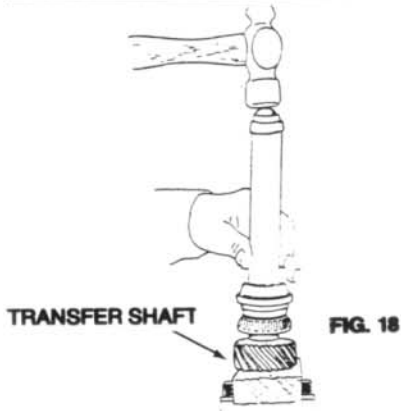

FIG. 18
1. It is necessary in this case to place the **SMALL TUBULAR CONE DRIVER** and the **CUP AND CONE DRIVER PLUG** over the new cone to accommodate the shaft when driving into position. (Fig. 18) Use the **LARGE TUBULAR CONE DRIVER** to finish installing the cone if necessary.